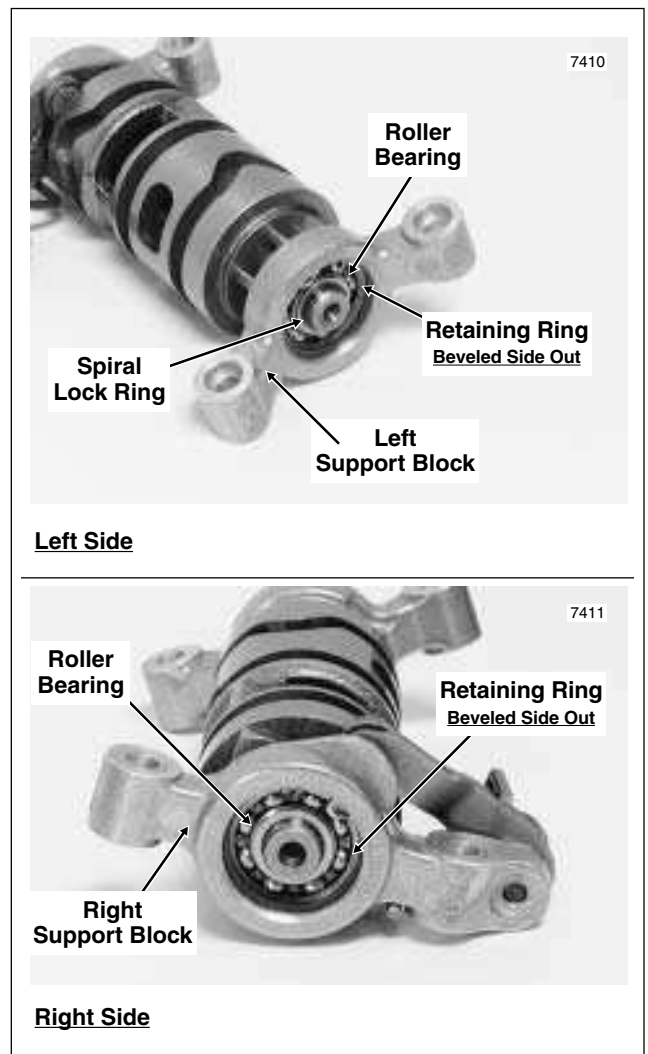

Figure 7-10. Shifter Cam Assembly
- a. Place left support block under ram of arbor press. Center **new** roller bearing over bore with the lettered side up. Using a suitable driver, press against outer race until bearing makes firm contact with the counterbore. Install **new** retaining ring with the flat side in against the bearing (beveled side out). See upper frame of Figure 7-10.
- c. Place right support block under ram of arbor press. Center **new** roller bearing over bore with the lettered side up. Using a suitable driver, press against outer race until bearing makes firm contact with the counterbore. Install **new** retaining ring with the flat side in against the bearing (beveled side out). See lower frame of Figure 7-10.